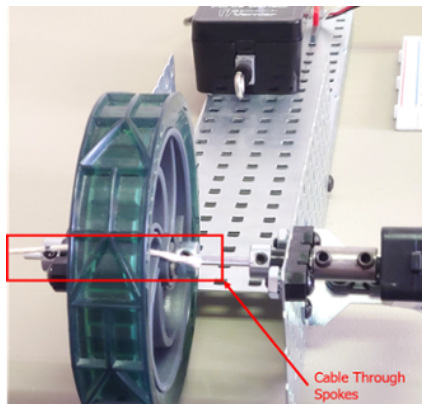

Figure 4. Cable Passed Through Spokes
- b. Pass the loop at the end of the cable through the spokes of the 4-inch wheel as shown in Figure 4.